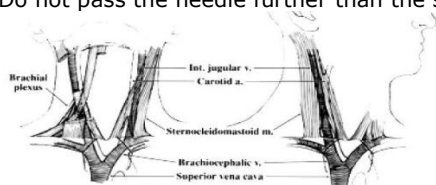

Figure 1
16. Advance the stylet from the exit site to the venous site (Fig. 1) in a subcutaneous plane in a gentle dissection. Do not tunnel through muscle. Tunnel gently to avoid damaging the surrounding vessels.